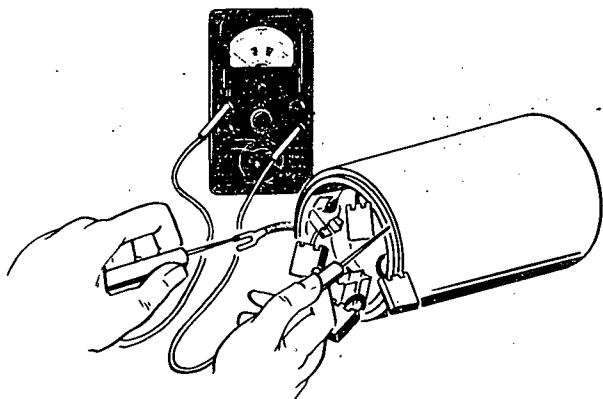

FIGURE 44. FIELD COIL GROUND TEST
6. **Testing Field Coils for Grounds.** Place one lead on the connector and the other on a clean spot on the frame after unsoldering shunt field coil wire. If the ohmmeter reading is low, the fields are grounded, either at the connector or in the windings (Figure 44).